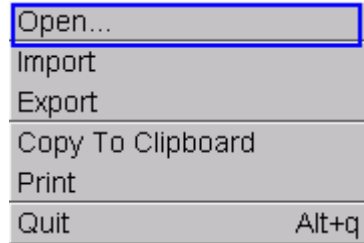

Figure 2.31: File manager
2. Select **File**→**Open** (illustrated in Figure 2.31) or  icon